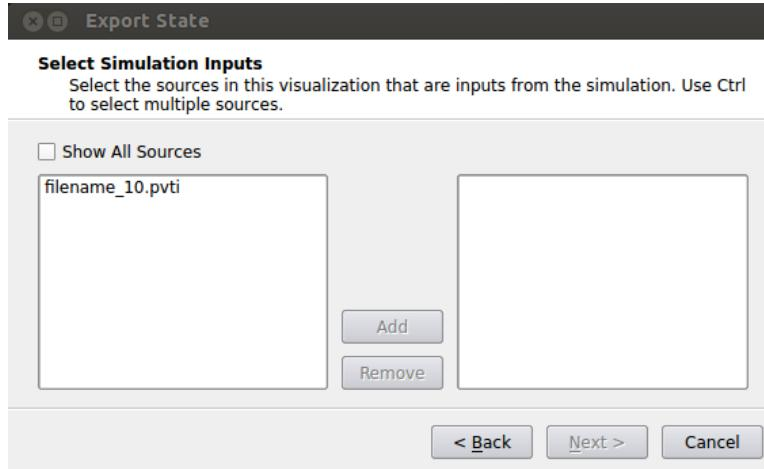

Figure 2.3: Selecting filename_10.pvti as an input for the Catalyst pipeline.
4. After that, the user must select the sources (i.e. pipeline objects without any input connections) that the adaptor will create and add them to the output. Note that typically this does not include sources from the `Sources` menu since the generated Python script will instantiate those objects as needed (e.g. for seeds for a streamline). In the case shown in Figure 2.2 the source is the filename_10.pvti reader that is analogous to the input that the simulation code's adaptor will provide. The user can either double click on the desired sources in the left box to add them to the right box or select the desired sources in the left box and click Add. This is shown in Figure 2.3 below. After all of the proper sources have been selected, click on Next.